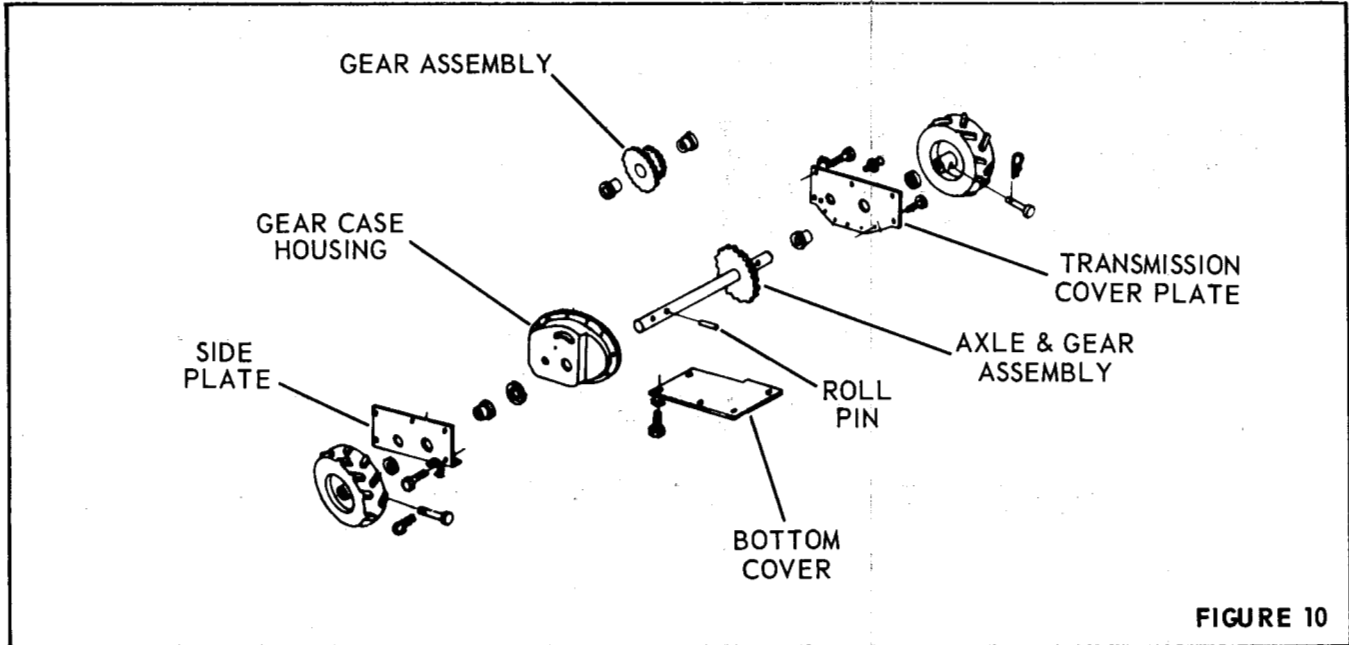

FIGURE 10
- 4. Remove bottom cover plate and transmission cover plate. Fig. 10.
- 6. Remove gears, gear and axle and interior gearcase housing plate. Fig. 10.